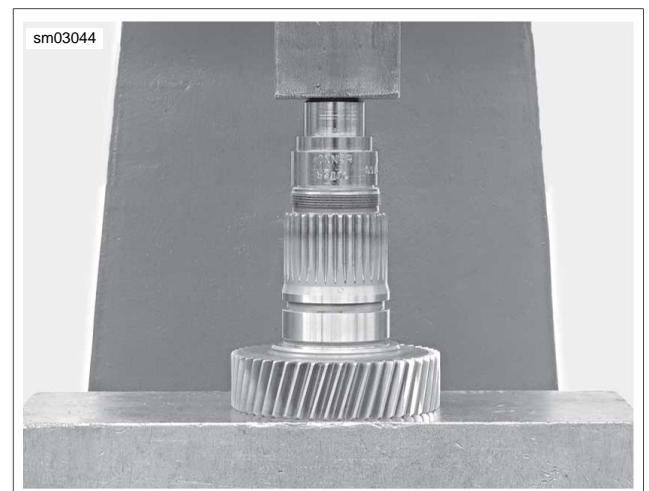

Figure 7-39. Pressing in Seal
- a. See Figure 7-39. Turn over tool and press in mainshaft seal using the 0.090 in. step.